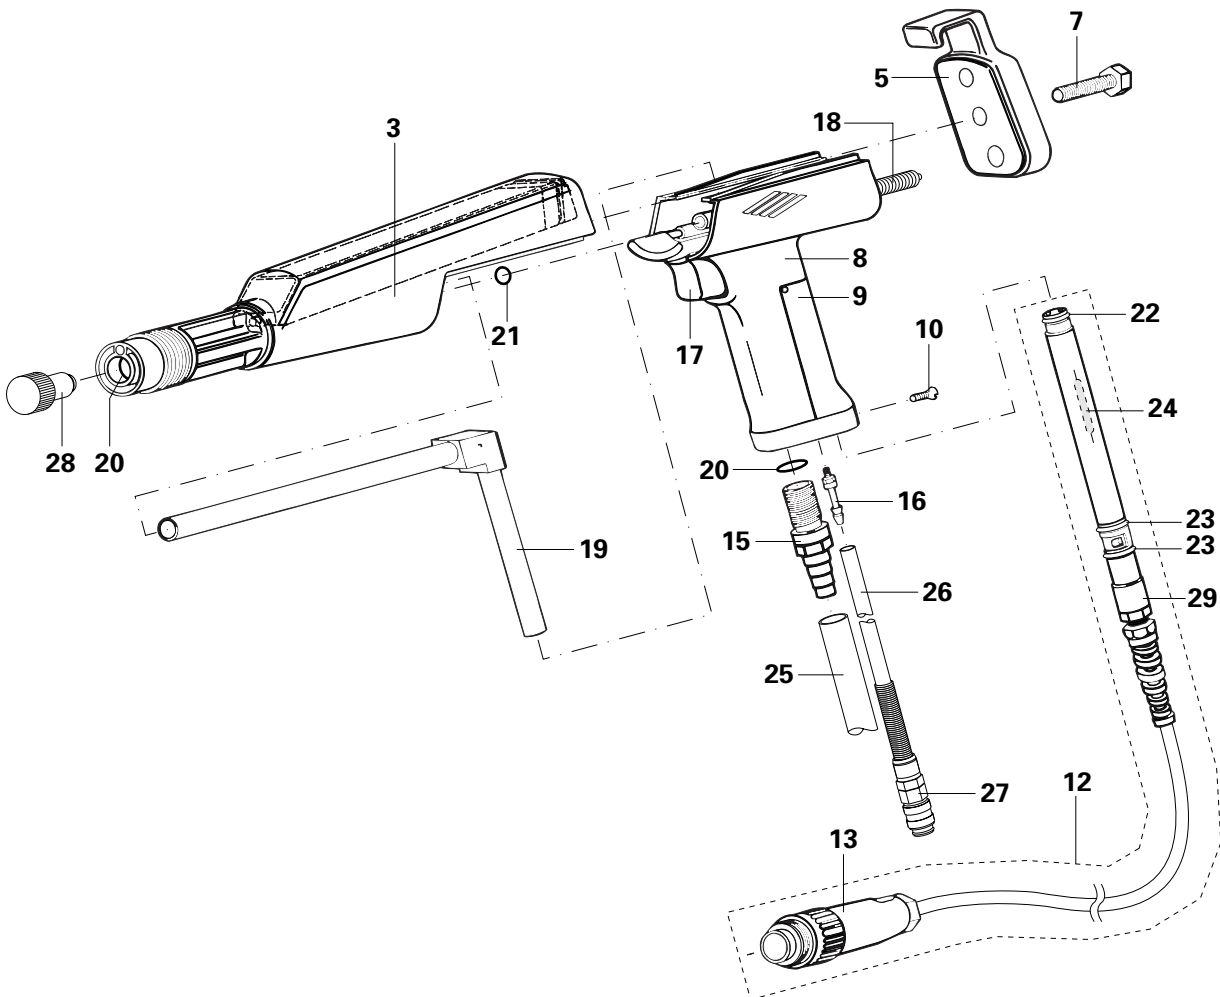

Figure 8.
3. Actuate the gun trigger (**17** - Fig. 8).
Check by observing the LED (**6** - Fig. 8).
Important: **Before cleaning the gun, switch off the control module and detach the gun connector (13 - Fig. 8).
5. Clean the gun tube (**19** - Fig. 8) by means of the spiral brush supplied .
4. Unscrew the lock screw (**10** - Fig. 8).
5. **Give the cable connector (11 - Fig. 8) a 1/4 turn counter-clockwise (align the marks) and pull out in a straight line.**
7. Unfasten the plastic bolt (**7** - Fig. 8) and remove the connecting plate (**5** - Fig. 8).
8. Separate the grip (**8** - Fig. 8) from the shaft (**3** - Fig. 8).
9. Pull the powder tube (**19** - Fig. 8) out of the grip (**8** - Fig. 8).
- the gun cable connector (**11** - Fig. 8) is properly seated: it should be possible to turn the lock screw (**10** - Fig. 8) all the way into the countersink.
Except for the replacement of possibly defective parts, virtually no repairs should be required. The replacement of the cascade (**4** - Fig. 8) and the repair of the gun cable connector (**11**) should only be performed by an *authorized* ITW Gema service centre – please consult your local ITW Gema Agent.
Replacing the trigger (**17** - Fig. 8) or the spring (**18** - Fig. 8):
4. Insert the (new) trigger into the grip (**8** - Fig. 8)
Replacing the gun connector (**13** - Fig. 8):